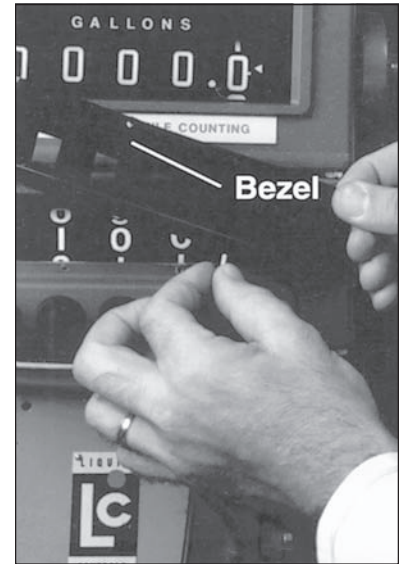

Figure 13a: Bezel Removal
2. Remove the bezel (Figure 13a).